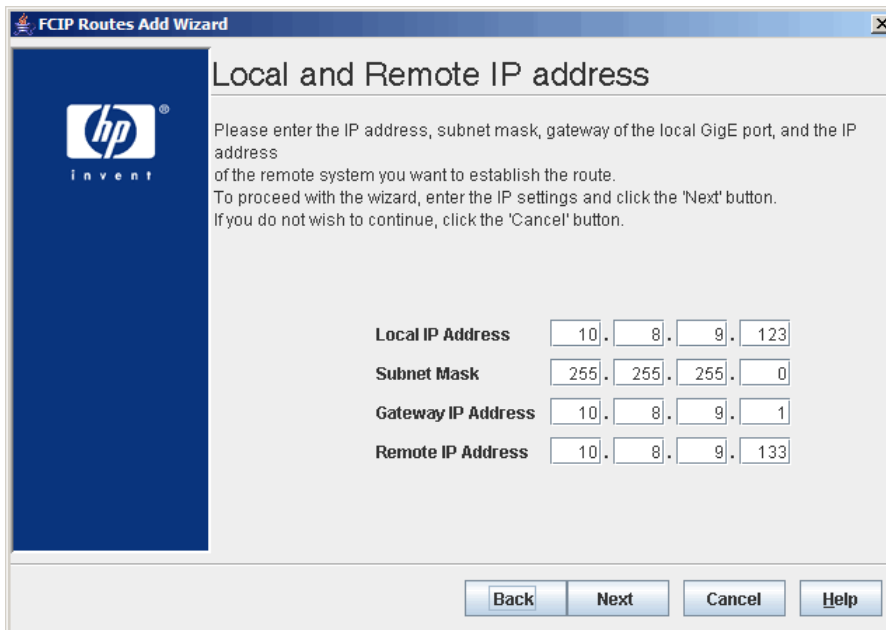

Figure 37 FCIP route add wizard—local and remote IP address dialog box
3. Enter IP addresses per the **Local and Remote IP Address** dialog box, see Figure 37.